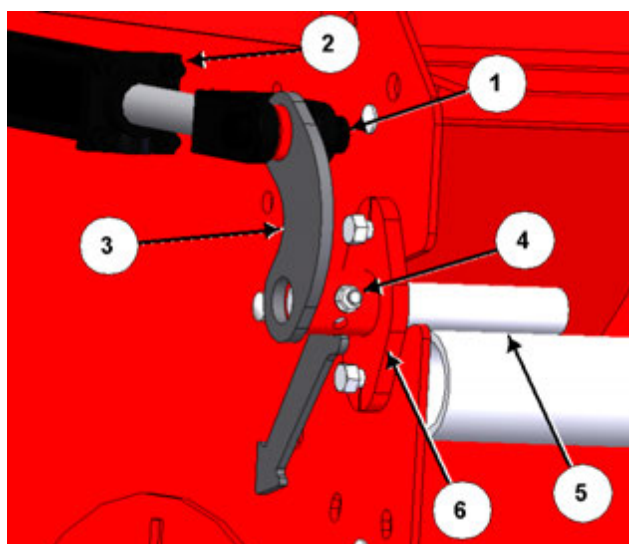

Figure 34: Replace pin and hydraulic adjustment
- c. If the optional hydraulic aggression control was previously installed, follow the below steps and see Figure 34:
- i. Fasten the guard rod adjustment tube (6) to the tub wall using the previously removed hardware.
- ii. Replace the hydraulic adjustment arrow (3) and fasten to the guard rod adjustment bar (5) using the previously removed cross bolt (4).
- iii. Replace the pin (1) that fastens the hydraulic cylinder (2) to the hydraulic adjustment arrow (3).